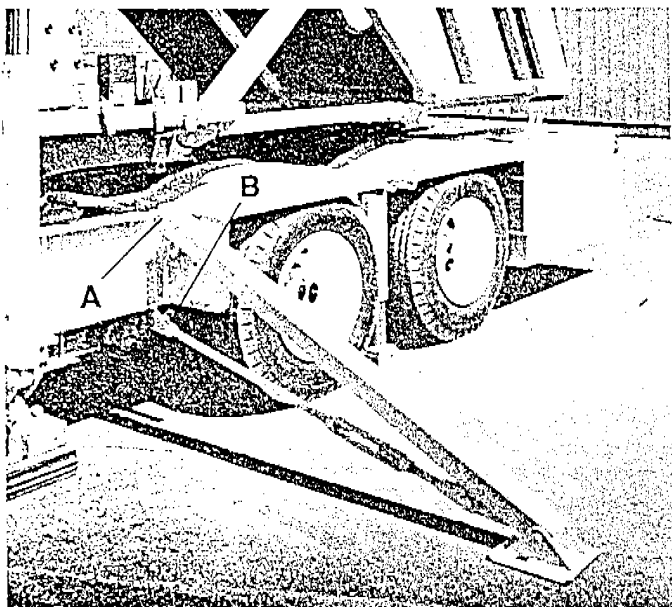

Fig. 9
- b. Install an outrigger to the top set of double ears on the side of the trailer frame, just forward of the rear tires (a). Run a pin through the holes in the ears and top of the outrigger. SNAP KEY IN PLACE. Install the outrigger turnbuckle to the lower ear on the side of the trailer frame (b). PIN AND SNAP KEY IN PLACE. (Fig. 9)